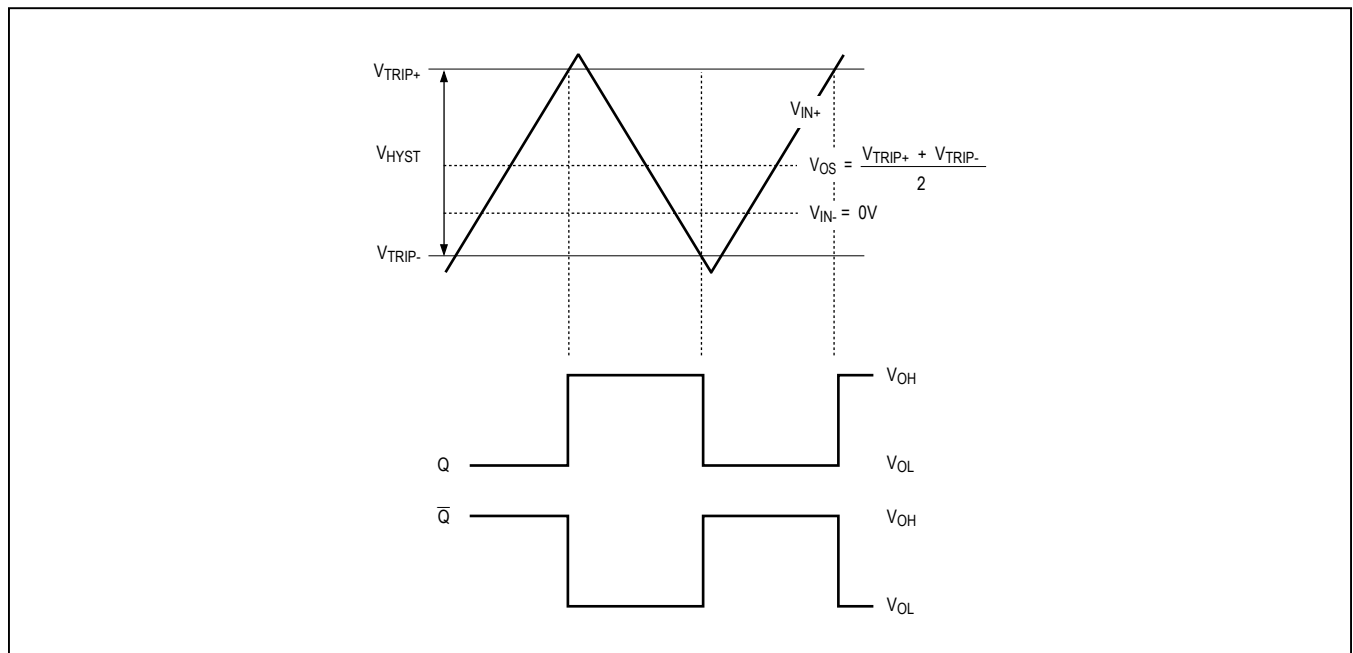

Figure 1. Input and Output Waveforms, Noninverting Input Varied
- Note 3:** The input-referred trip points are the extremities of the differential input voltage required to make the comparator output change state. The difference between the upper and lower trip points is equal to the width of the input-referred hysteresis zone. (See Figure 1.)
The added hysteresis of the MAX961–MAX964/MAX997/MAX999 creates two trip points: one for the rising input voltage and one for the falling input voltage (Figure 1). The difference between the trip points is the hysteresis. When the comparator's input voltages are equal, the hys-